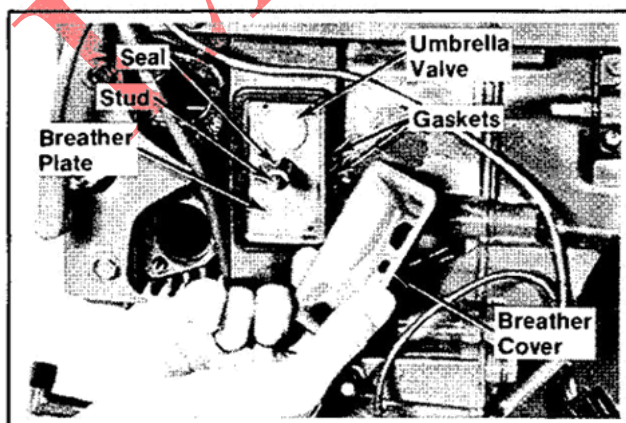

Figure 11-47. Installing Breather Components.
1. If removed, install the umbrella valve to breather plate. Refer to Figure 11-47.